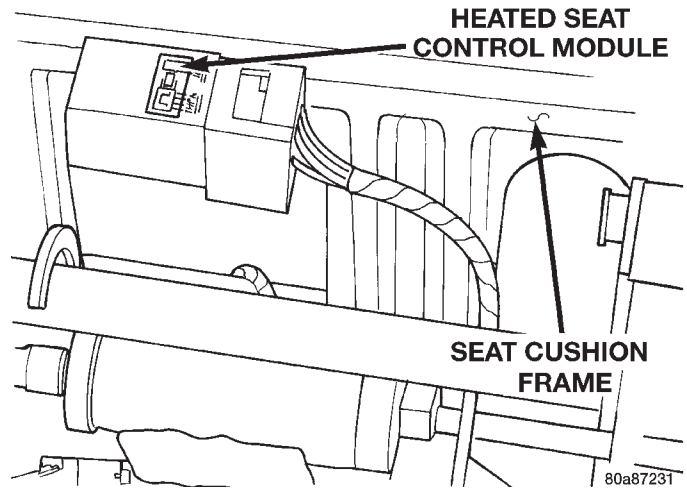

Fig. 3 Heated Seat Control Module
- (1) Move the power seat adjuster to its upper-most and rearward-most stop positions.
- (2) Disconnect and isolate the battery negative cable.
- (3) Reach under the front of the seat cushion and separate the heated seat control module from the seat cushion frame (Fig. 3).
- (4) Unplug the wiring connector and remove the module from under the seat.
- (5) Reverse the removal procedures to install.